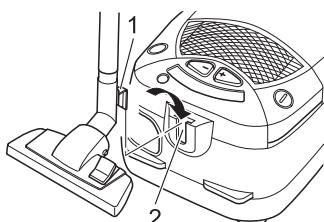

Fig. 16
- To **store it** or when interrupting your work, you can hook the park/storage hook (Fig. 16/1) into the parking (Fig. 16/2) bracket.